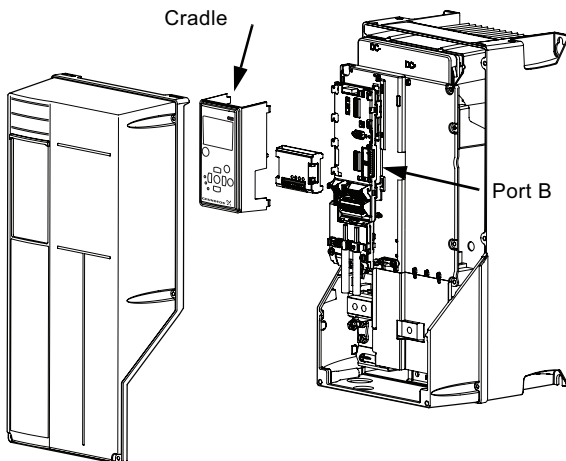

Fig. 4 Enclosures A5, B1, B2, B4, C1, C2, C3, C4, D1 and D2
2. Remove the control panel and the cradle from the CUE. See fig. 4.